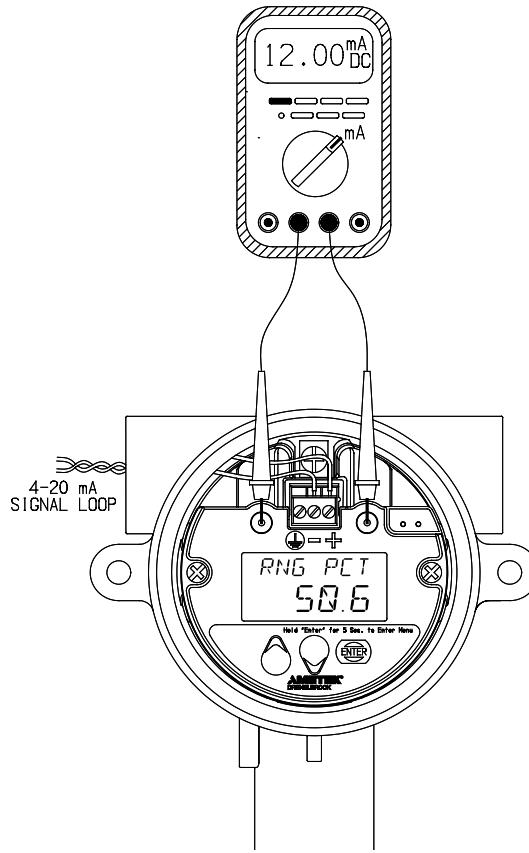

Figure 7-2
3. Observe the loop current See "Figure 7-2" on page 39 over a 12-hour period to confirm the stability of the unit. If the readings remain stable for this period, then the problem is not in the transmitter. If the loop current has changed more than 1% during the test period, then the unit is defective. Please contact the Service department for further instructions regarding repair or replacement.